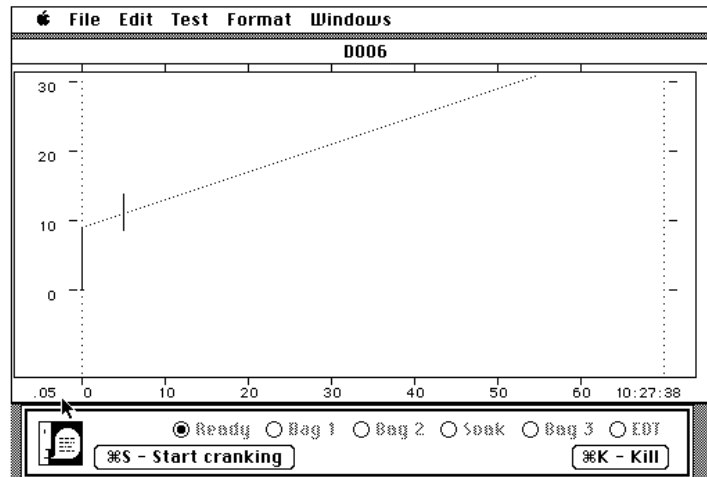

Figure 12
- 7.25.14 Select “Test” on the VDA menu bar and, while pressing the mouse button, drag down until “Set up for Driving” is highlighted. This will initialize the ramp-up/ramp-down profiles (0-60 @ 2.5 mph/sec separated by a 1-minute cruise at 60 mph) on the VDA (see figure 12).